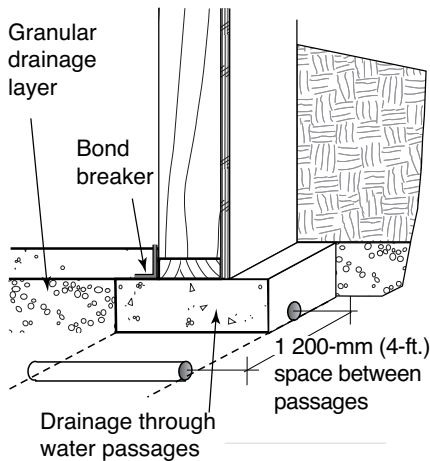

FIGURE 62
- ◆ If concrete footings are installed on undisturbed subsoil, provide drainage passages of at least 60 mm (2-1/2 in.) in diameter every 1200 mm (4 ft.) to allow water to pass. Protect the passages from becoming plugged during concrete pouring. Ensure that a drainage layer is provided on the exterior of the footing. Make footings no wider than necessary to meet NBC requirements (see Figure 62).